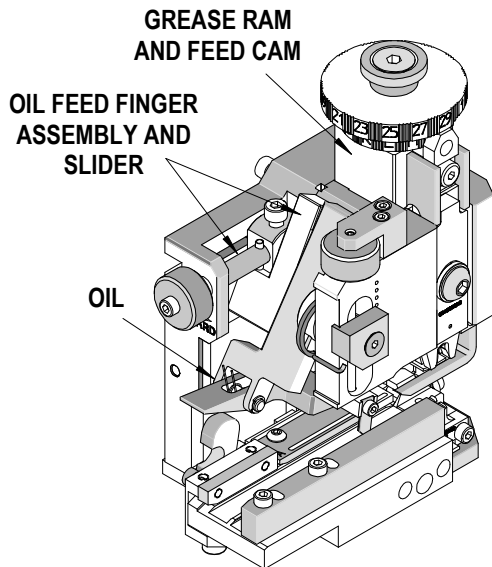

Figure 3-1 MECHANICAL FEED
4. Lubricate all points shown in Figures 3-1 with the specified oil and grease (or equivalent).